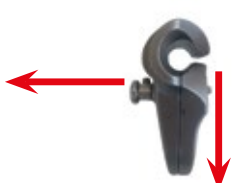

Figure 4.35
Figure 4.34 - The rear part of the glider contains two teeth, which have the sole purpose of allowing the mobile part to be gripped and made to slide (after applying a slight downward force). (See Figure 4.35)
2. Pull stop 2 outwards and at the same time grip the mobile part of the glider and press downwards slightly (see Figure 4.35);